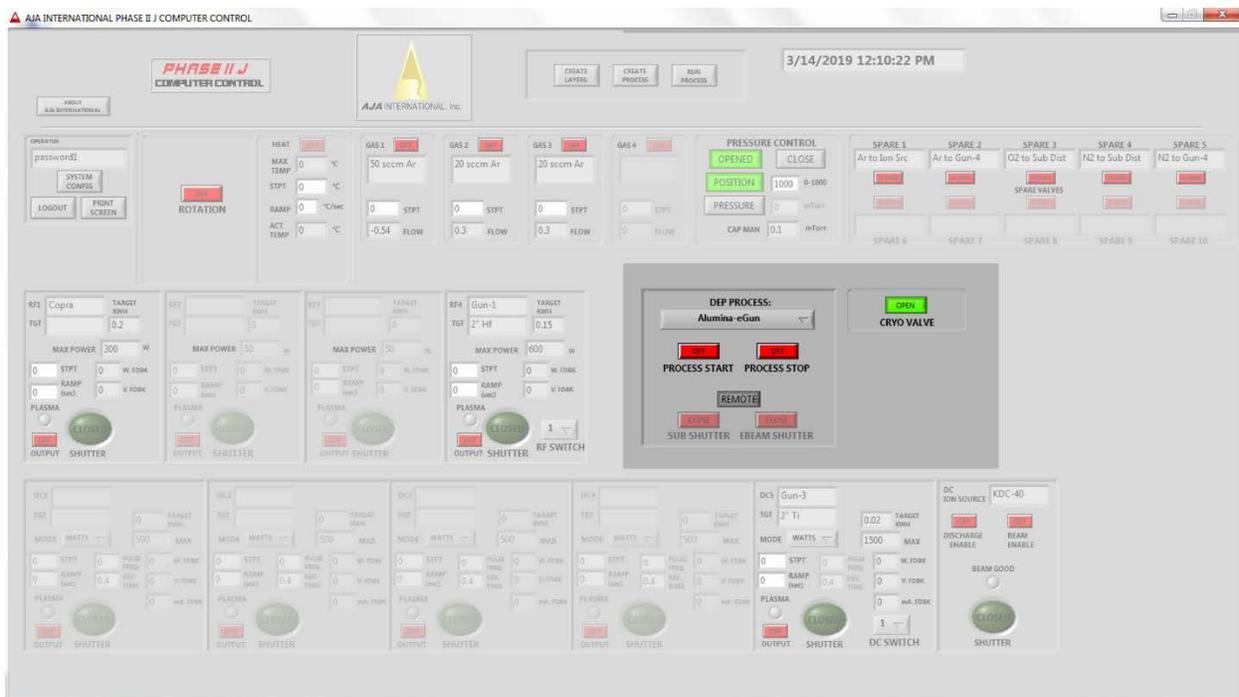

Fig. 19. Phase II J software. Ebeam deposition controls and cryo valve switch are highlighted.
- 8) Turn ON the high voltage (HV) on e-gun remote controller (green button). The screen should display 8.60 kV.
- 9) In the PHASE II J software, in e-beam deposition section (Fig. 19), make sure the regime button is set to REMOTE, then select desired process, and click Run Process. The deposition will start in fully automatic mode.